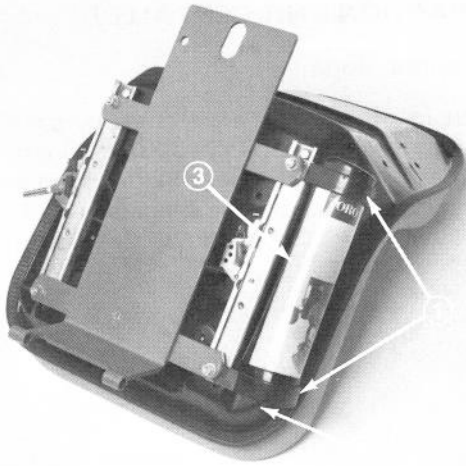

Figure 7
4. Secure (2) R-clamps to right side of seat bottom with (2) capscrews supplied in kit (Fig. 7). Install manual tube into R-clamps, insert manual into tube and place cap over tube end (Fig. 7).
5. Mount seat support over all four threaded studs and secure in place with lockwashers and nuts (Fig. 7).